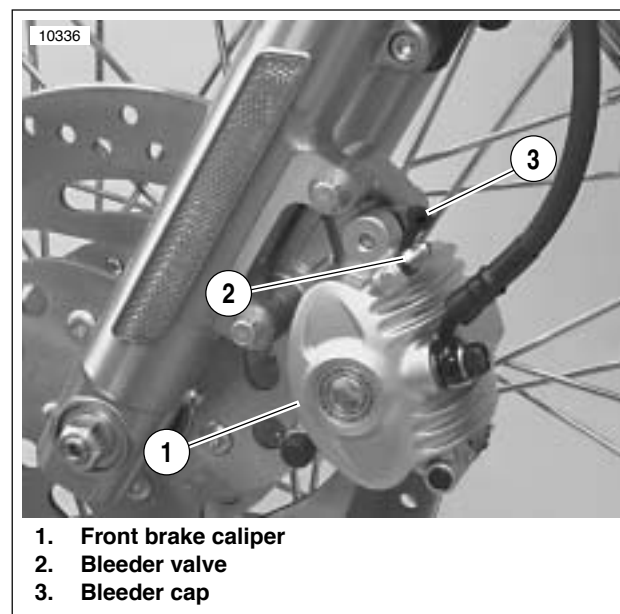

Figure 1-24. Front Brake Caliper
4. See Figure 1-24. Remove bleeder cap (3) from bleeder valve (2) on front caliper (1).
6. Squeeze and hold brake lever to build up hydraulic pressure. See Figure 1-24. Open bleeder valve (2) about 1/2-turn. Brake fluid will flow from bleeder valve through tubing. Observe fluid flowing through tubing. Check for air bubbles.
9. Final tighten bleeder valve to 35-61 in-lbs (4.0-6.9 Nm). Remove plastic tubing and install bleeder cap (3).